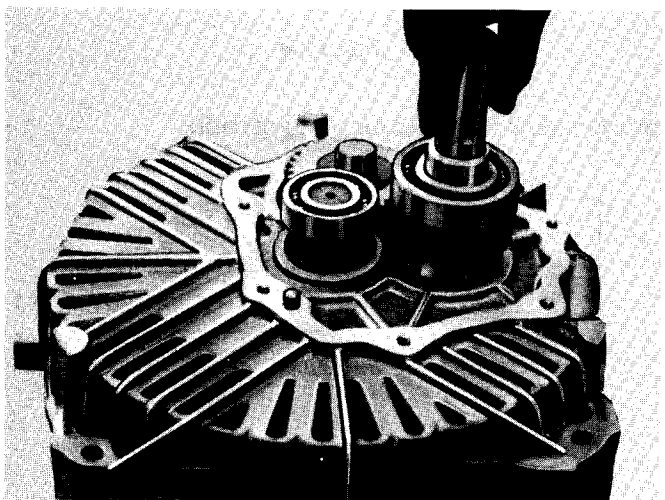

Fig. 12-8
- g) Set the output shaft assembly in the adaptor. (See Fig. 12-8.)